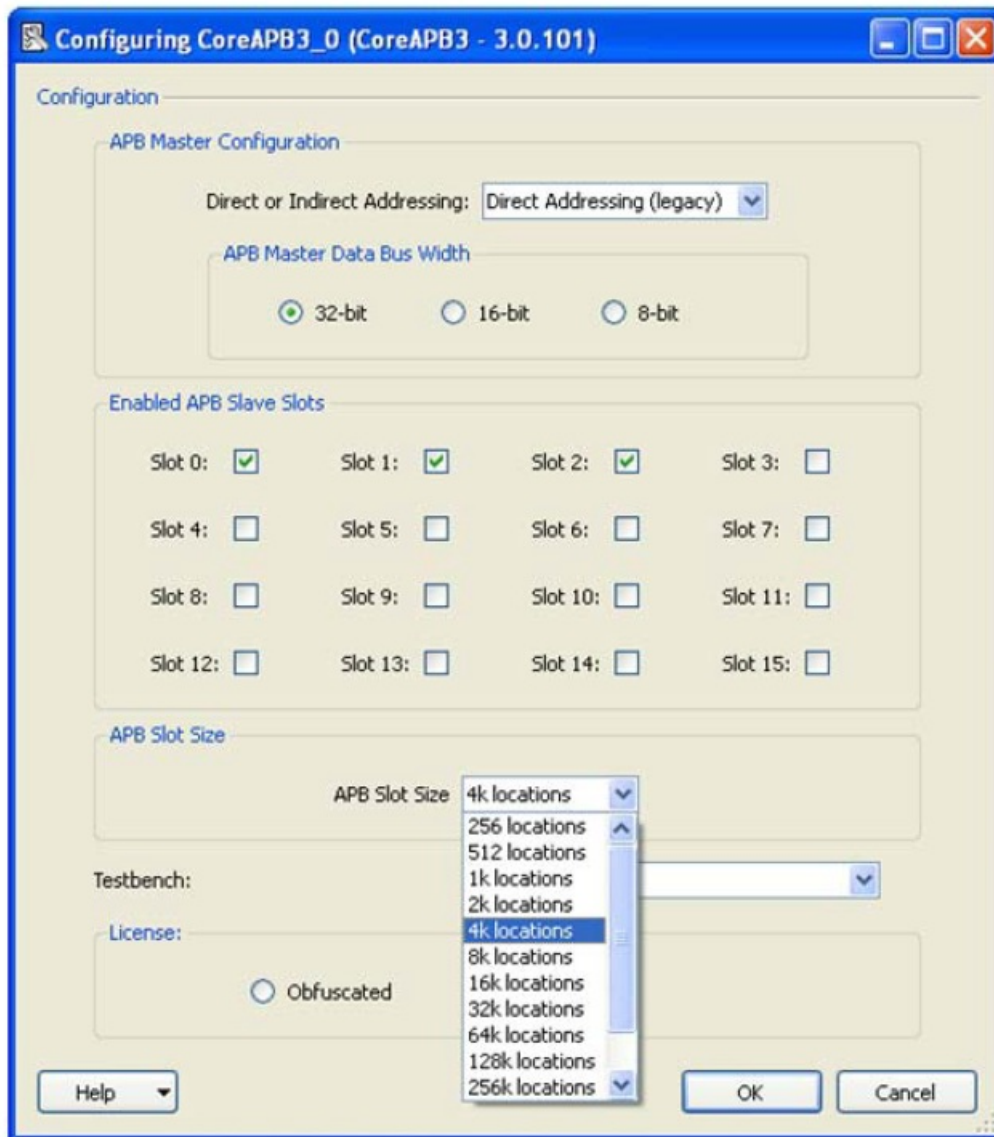

Figure 1-5 · Select the APB Slot Size
- Select the APB slot size as 4KB or below as shown in Figure 1-5. Assuming that you have selected 64KB slot sizes for CoreAHBLite, then the maximum size of the slots on CoreAPB3 (16 slots) is $64\text{KB}/16 = 4\text{KB}$ when going through CoreAHBtoAPB3.